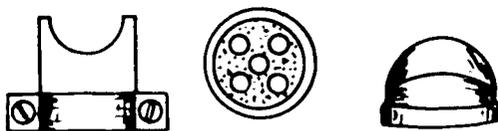

FIGURE 2.
- C. Remove cover and separator from weatherhead (Figure 2)